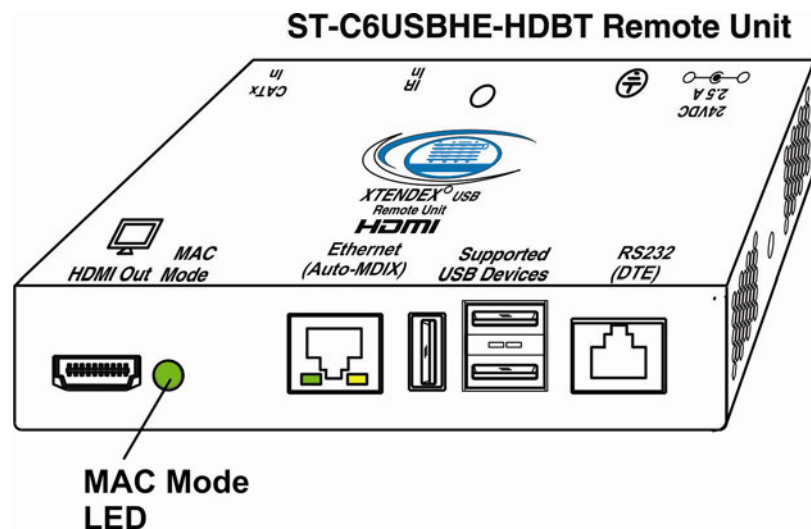

Figure 6- MAC Mode LED
2. If a MAC CPU is connected, press the <M> key. The keyboard LEDs will momentarily flash and the "MAC" LED on the Remote Unit will illuminate to indicate MAC Mode is ON. (See Figure 6)